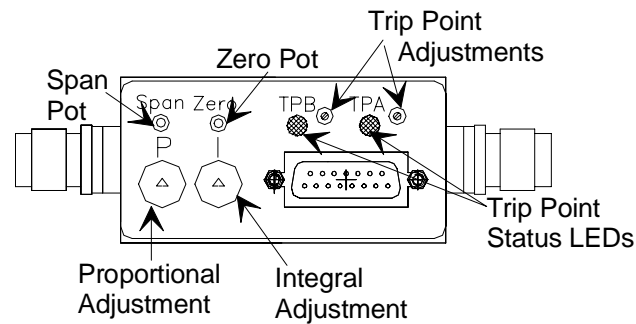

Figure 13: Top View of the 640 Series Controller
Figure 13 shows the top view of the 640 Series Pressure Controller. The user adjustable controls for zero, span, the P term, the I term, and the trip points are located on the top of the controller. The trip point settings can be measured through two test jacks, located on the side of unit, as shown in Figure 4, page 18.
The Proportional (P) term adjustment is located on the top of the 640 Series unit, as shown in Figure 13, page 33. The control is a 10-position dial, though it uses only 8 values. The last positions, 8 and 9, repeat the values of positions 0 and 1. The initial setting is 0. As you increase the setting number, the value of the term increases by a factor of approximately 2.8.
The Integral (I) term adjustment is located on the top of the 640 Series unit, as shown in Figure 13, page 33. The control is a 10-position dial where the 0 setting has the *longest* integration time; the 9 position setting has the *shortest* integration time. The initial setting is 0.
The 640 Series controller provides two trip points (Trip Point A and Trip Point B). Each trip point operates independently and controls an open collector output that can be connected to an external relay. Each trip point has an adjustment pot, a status LED, and a test jack. Refer to Figure 13, page 33, for the location of the trip point adjustment pots and LEDs. The test jacks are located on the side of the unit, as shown in Figure 4, page 18. Refer to *How To Adjust the Trip Point Values*, page 46, for instructions on changing the trip point values.